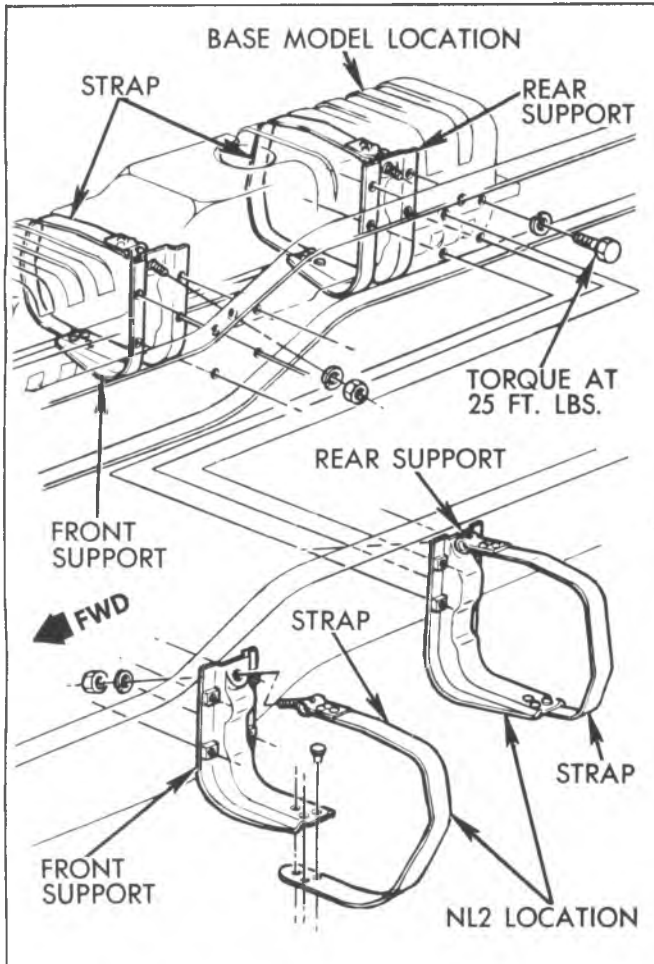

Fig. 6C5-6--Fuel Tank Mounting-Cab and Crewcab
6. Remove tank from frame simultaneously disengaging filler neck hose from filler neck (Fig. 6C5-8 and 6C5-9).
7. Remove meter assembly from fuel tank using Tool J-24187 (Fig. 6C5-10).
CK 10 and 20 (06, 16) (Figs. 6C5-11, 12) G Van (Fig. 6C5-13).